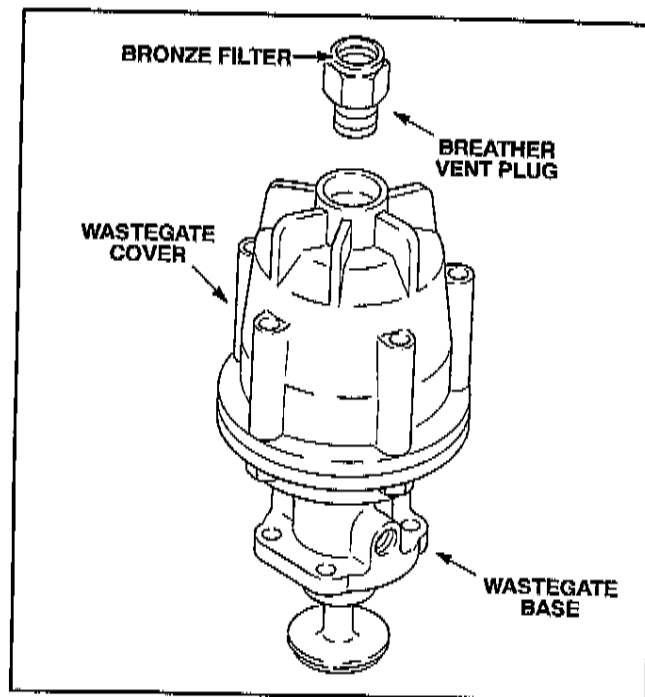

Figure 5.35-17. Wastegate Breather Vent
1. Remove breather vent plug from center of wastegate cover (see Figure 5.35-17).